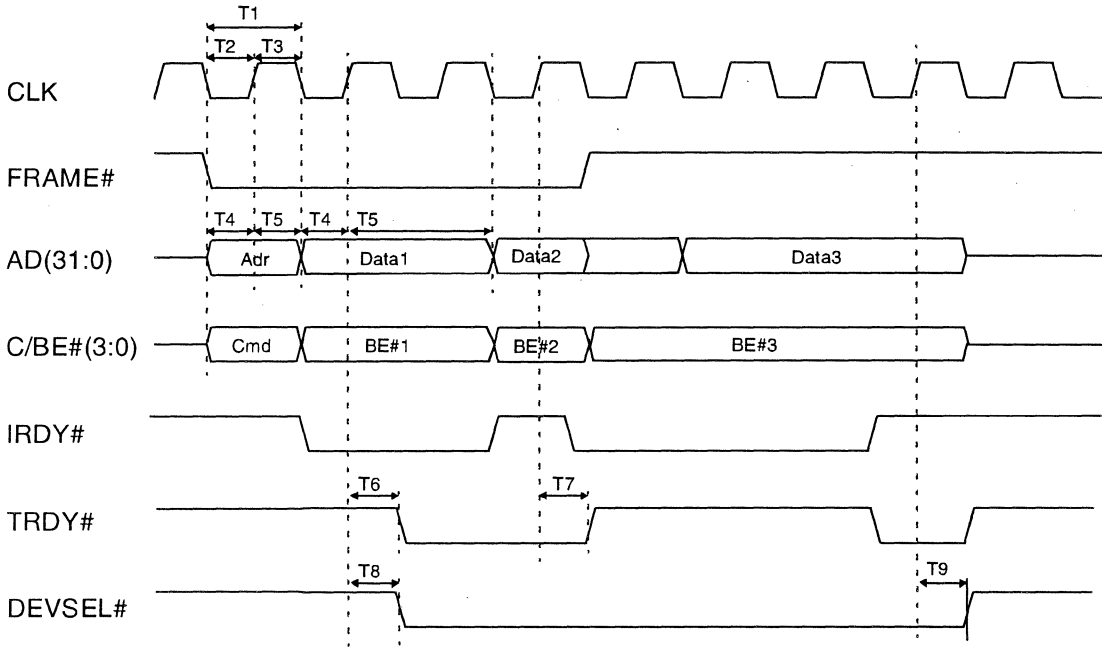

Figure 7-3. Burst Access Timing - PCI Bus
- Burst Access Timing, see *Figure 7-3*.